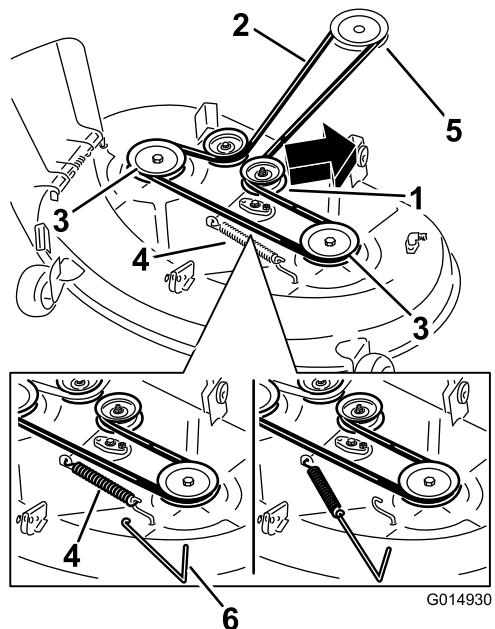
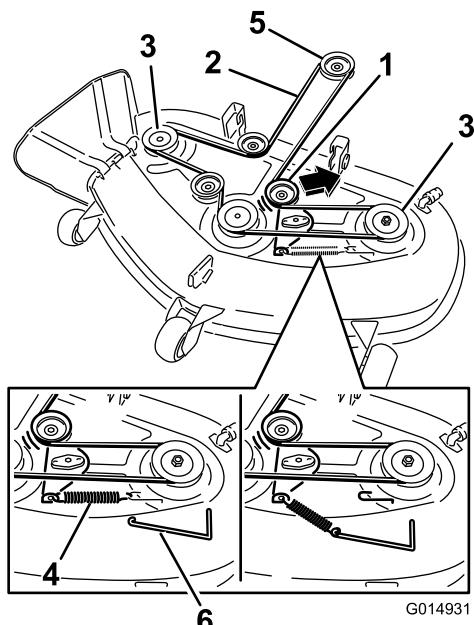

Figure 59
Figure 60
4. Using a spring-removal tool, (Toro part no. 92-5771), remove the idler spring from the deck hook to remove tension on the idler pulley and roll the belt off the pulleys (Figure 59 and Figure 60).
5. Route the new belt around the engine pulley and mower pulleys (Figure 60).
6. Using a spring-removal tool, (Toro part no. 92-5771), install the idler spring over the deck hook and placing tension on the idler pulley and mower belt (Figure 59 and Figure 60).